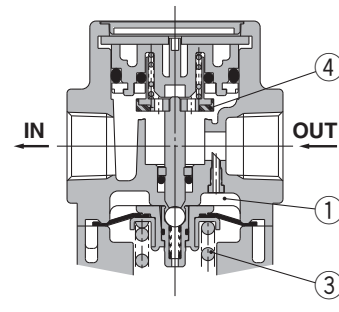

Figure 2 Backflow
When the inlet pressure is higher than the regulating pressure, the check valve ② closes and operates as a normal regulator (Figure 1). When the inlet pressure is shut off and released, the check valve ② opens and the pressure in the diaphragm chamber ① is released into the inlet side (Figure 2). This lowers the pressure in the diaphragm chamber ① and the force generated by the pressure regulator spring ③ lifts the diaphragm. The valve ④ opens through the stem, and the outlet pressure is released to the inlet side (Figure 2).